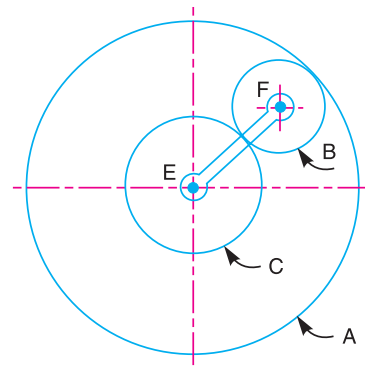

Fig. 13.10
**Example 13.6.** An epicyclic gear consists of three gears  $A, B$  and  $C$  as shown in Fig. 13.10. The gear  $A$  has 72 internal teeth and gear  $C$  has 32 external teeth. The gear  $B$  meshes with both  $A$  and  $C$  and is carried on an arm  $EF$  which rotates about the centre of  $A$  at 18 r.p.m.. If the gear  $A$  is fixed, determine the speed of gears  $B$  and  $C$ .
Let  $d_A$ ,  $d_B$  and  $d_C$  be the pitch circle diameters of gears A, B and C respectively. Therefore, from the geometry of Fig. 13.10,